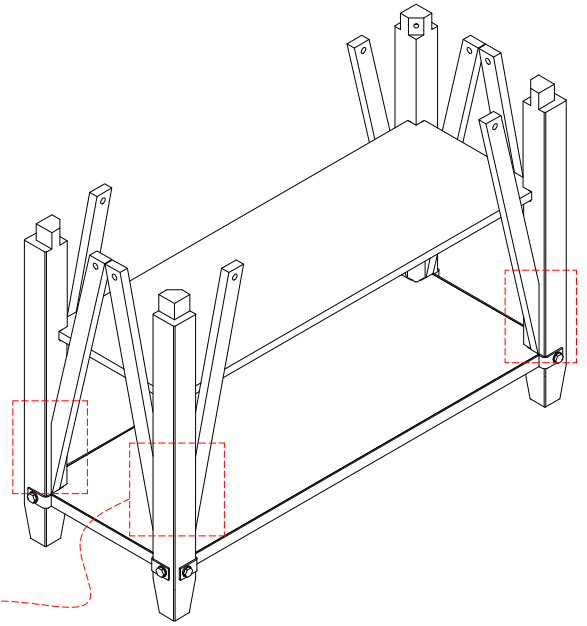

Figure 4
4. Attach all Stretcher on Legs (See Figure 4).